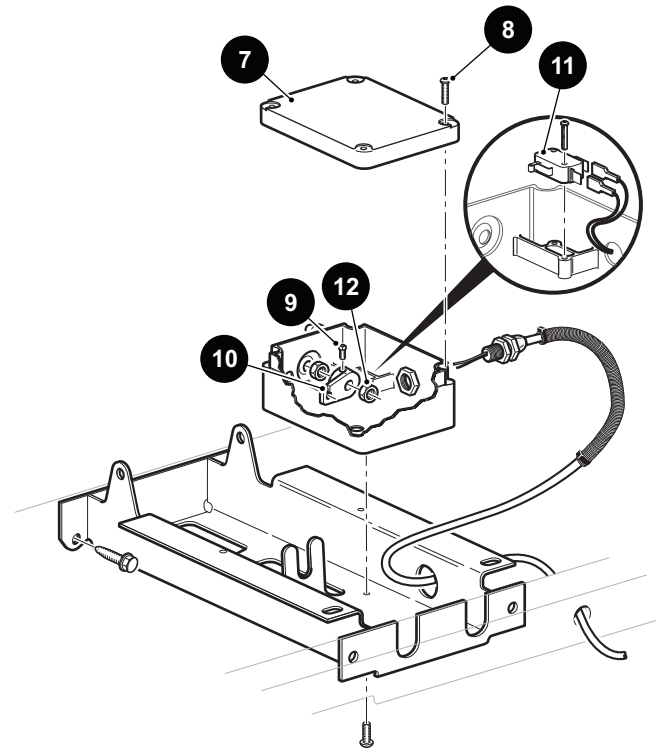

Fig. 8 Pedal Box Micro Switch
To access the micro switch, remove the rocker panel, lift the floor mat and remove the access cover from the floor (Ref. Fig. 3). Remove the screws (8) and cover (7) from the pedal box (Ref. Fig. 8).
Loosen the setscrew (9) in the cam (10) using a 1/8" Allen wrench. Loosen the jam nut (12) and move the cam to adjust as needed (Ref. Fig. 8). Adjust to permit 1/2" - 5/8" (13 - 16 mm) of accelerator pedal travel before the micro switch (11) clicks. Measure the distance at the top of the pedal with the pedal arm contacting the pedal bracket. Make sure the setscrew in the cam does not contact the micro switch actuator.